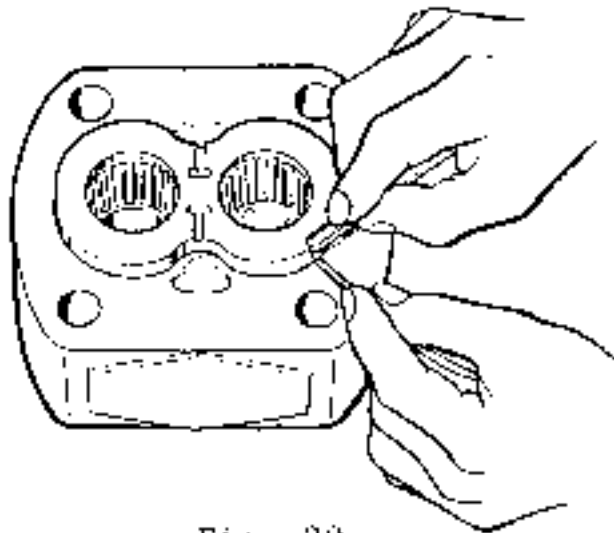

Fig. 20
7. Insert pocket seals ④ into the four grooves in the periphery of side plate ③ until they reach the periphery of the bearing.
8. Settle side plate ③ onto the finished surface tightly by lightly hammering with a plastic hammer. Cut the extruding portions of the pocket seals with a razor blade to make them flush with the outside surface of the side plate. (Fig. 20)